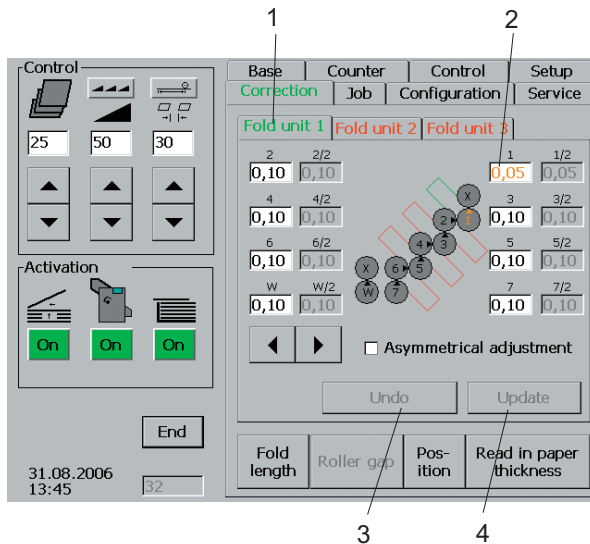

Fig. 39 Correction of roller gap
1. Select the fold unit by touching the appropriate tab (Fig. 39/1) (script colour changes).
3. Touch the input window (Fig. 39/2). A numerical keyboard pops up.
You can cancel incorrect entries by touching the *Undo* key (Fig. 39/3).
7. When entering the corrections is complete, touch the *Update* key (Fig. 39/4).